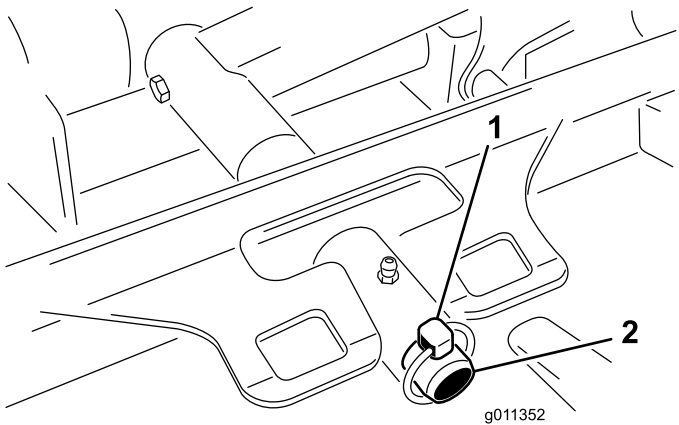

Figure 80
3. Remove the lynch pin (for Groundsmaster 4500 machines) or retaining nut (for Groundsmaster 4700 machines) securing the cutting unit-carrier frame to the lift-arm pivot pin (Figure 80).
2. Slide the cutting unit-carrier frame onto the lift-arm-pivot pin (Figure 80). Secure the cutting unit to the pin with the lynch pin (for Groundsmaster 4500 machines) or retaining nut (for Groundsmaster 4700 machines).